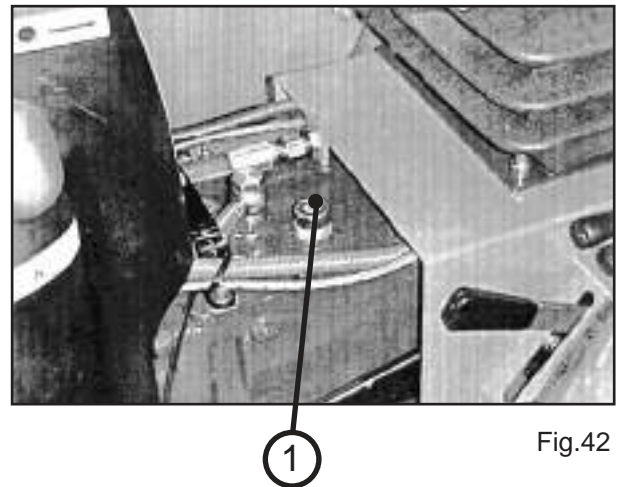
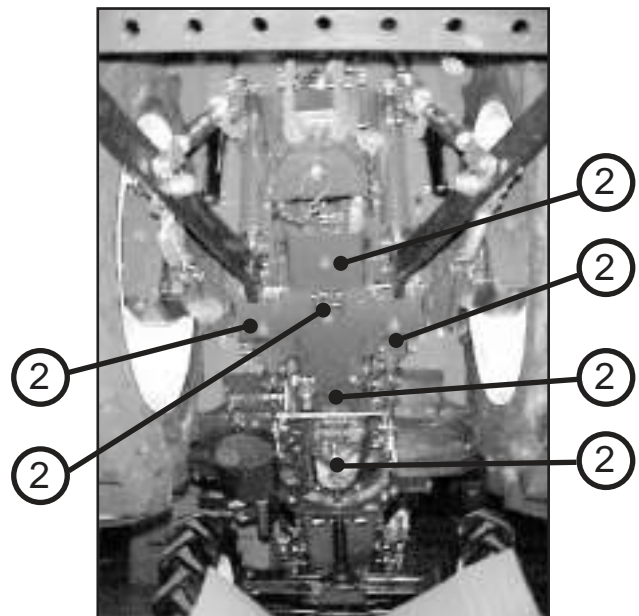
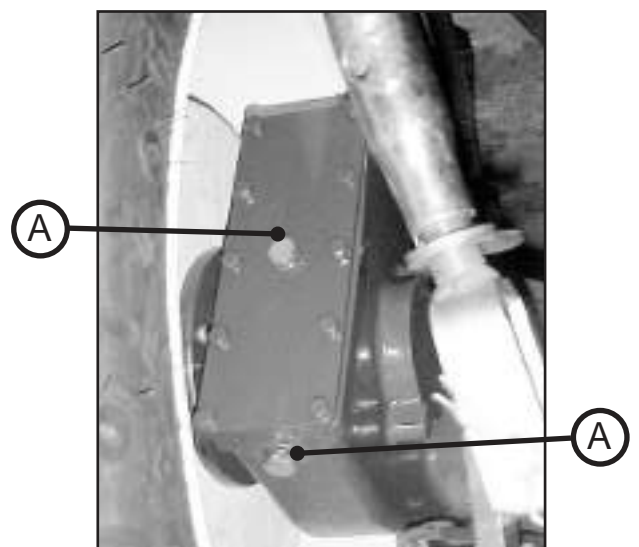

Fig.42
Fig.43
Fig.44
With the lifting arms completely raised, the oil level should be within the Min and Max marks on the dip stick (1, Fig. 42).
- 2.- Release the full cap (1, Fig. 42) and the emptying caps (2, Fig. 43), beneath the transmission casing. Also release the two emptying caps from the rear reducers (A, Fig. 44).